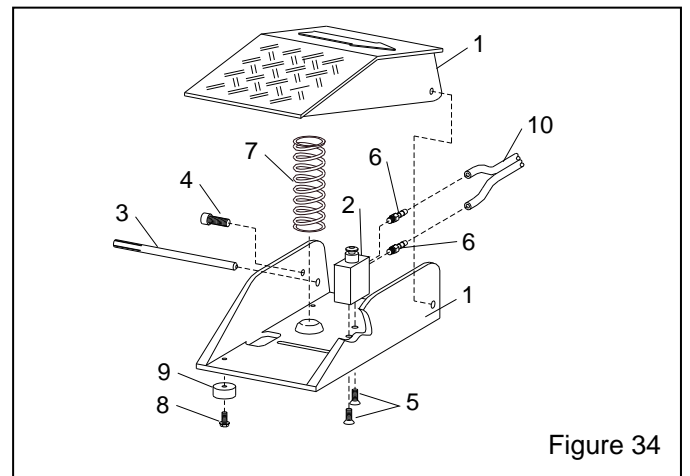

Figure 34
9.5 Foot Pedal Assembly, Figure 34